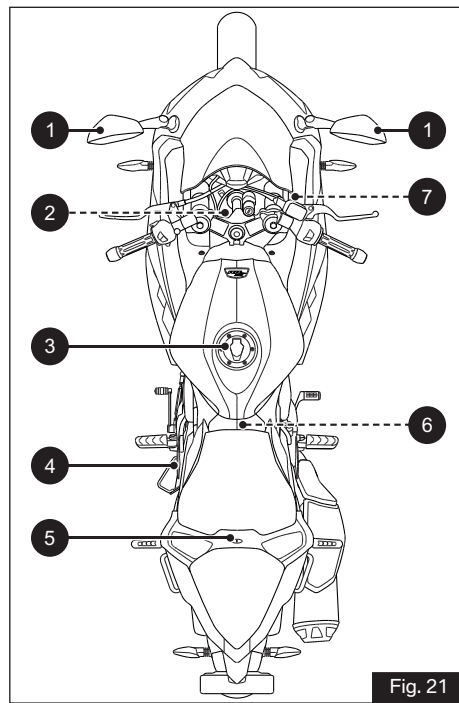

Fig. 20
**Front Brake Lever (ref. Fig. 20)**